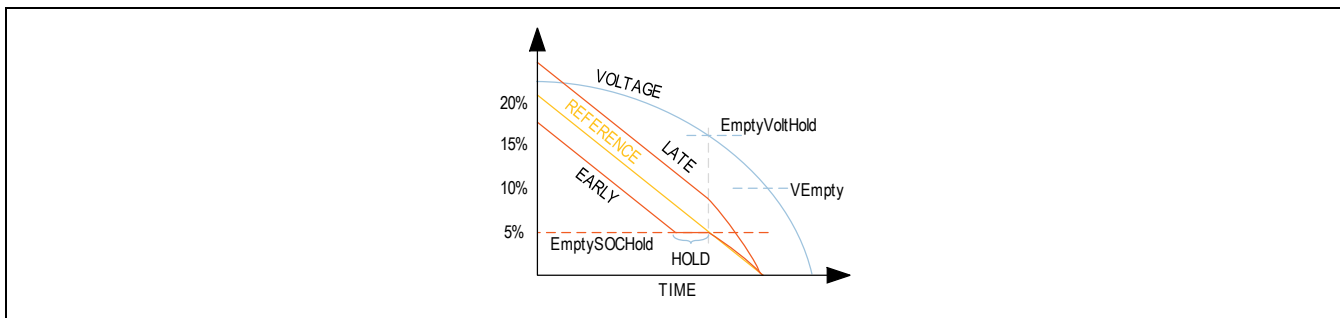

Figure 18. SOC Hold Conceptual Drawing
- Empty Hold.** This feature limits RepSOC to not fall below x% (1% default) until the empty voltage is crossed. This can be useful with operating systems which force system shutdown at a particular battery percentage. A Windows computer, for example, may force the system shutdown or hibernate when the fuel gauge crosses 5%. So setting Empty Hold to 6% can guarantee deeper discharge to a specified voltage level, and thereby often extend runtime. Set desired empty SOC in SOCHold.EmptySOCHold. The MAX77972 holds the SOC until battery voltage drop below $V_{empty} + SOCHold.EmptyV_{oltHold}$, as shown in Figure 18.